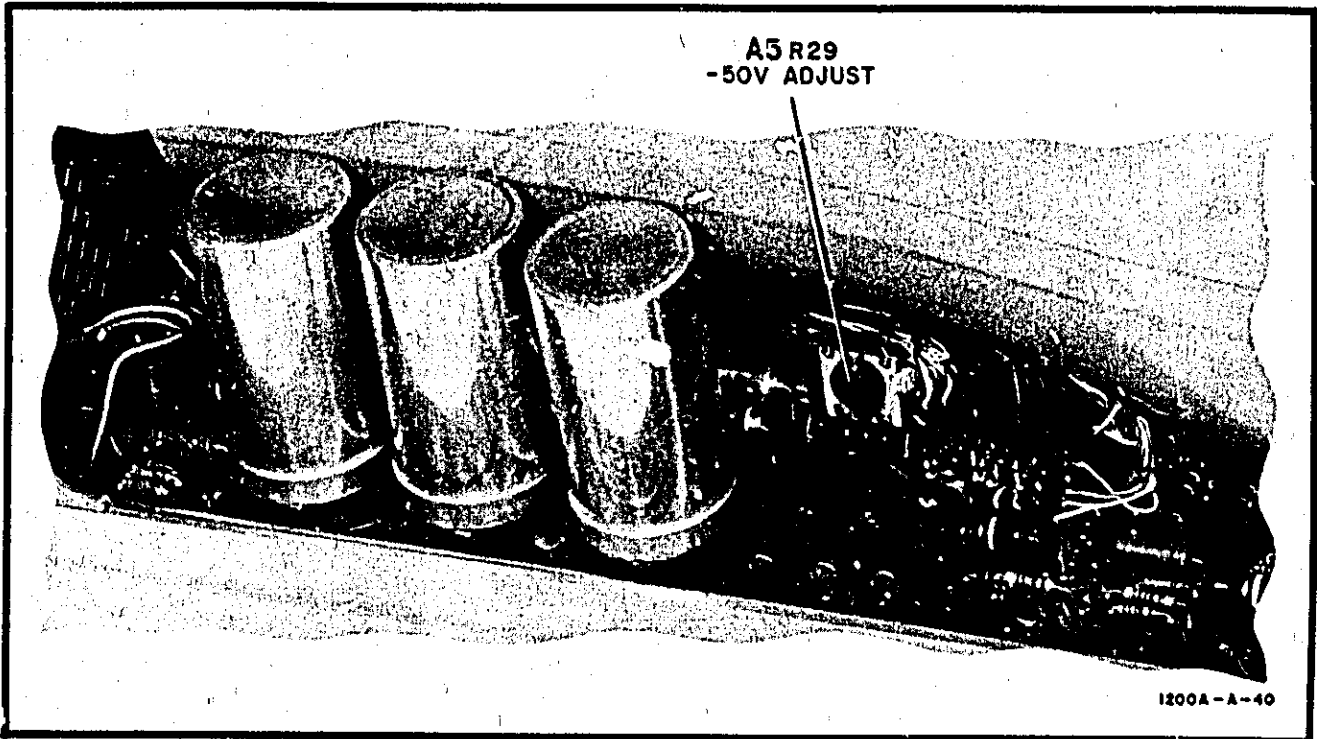

Figure 5-1. Low Voltage Power Supply Adjustment
5-36. Physical location of all internal adjustments is shown in Figures 5-1 through 5-5. Only channel A vertical attenuator and preamplifier adjustments are shown in Figure 5-4. To find the corresponding channel B adjustments, change the A1 prefix to A2.
b. Adjust A5R29 (Figure 5-1) for output of -50V ±25 mV.